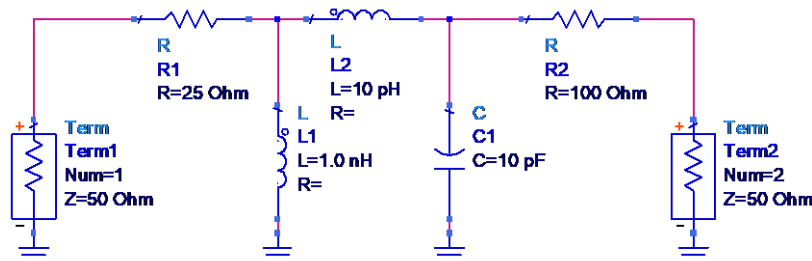

Figure 13: Practice Circuit
- (t) Repeat the above steps for the circuit shown in figure 13. Simulation start frequency should be 1 Hz, stop frequency should be 10 GHz and frequency step size should be 10 MHz.